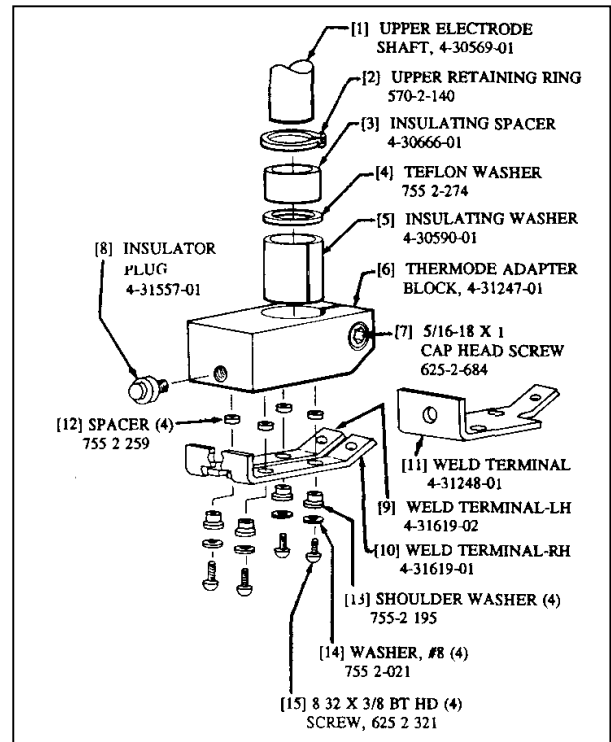

Figure 5-7. Thermode Adapter Block Exploded View
- 2 Reference Figure 5-7. Install the INSULATING SPACER, item [3] followed by the TEFLON WASHER, item [4].